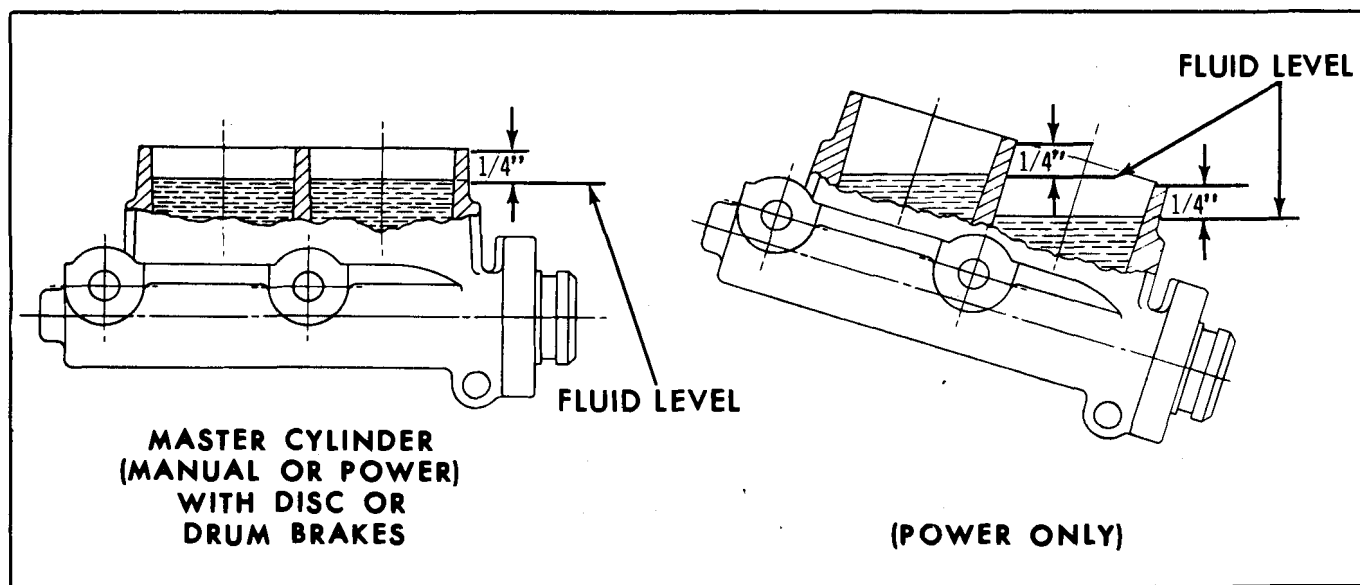

Fig. 5-11 Master Cylinder Fluid Levels
9. Re-fill master cylinder (Fig. 5-11).
5. Check fluid level in master cylinder. The level should be within 1/4 inch from top of reservoir (Fig. 5-11).
16. Check fluid level in master cylinder as shown in Fig. 5-11.